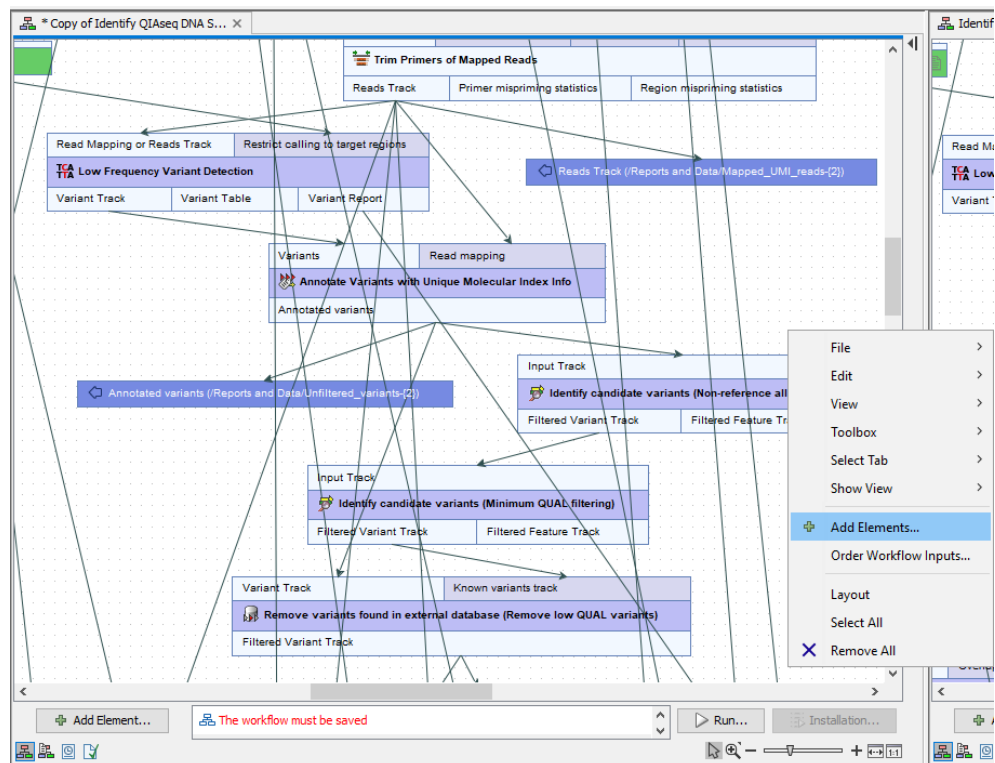

Figure 7: New elements can be added to a workflow using the Add elements dialog.
12. Right-click in a blank area of the canvas, somewhere below the **Identify candidate variants (Non-reference alleles)** element, and choose the option **Add elements...** from the menu that appears, as shown in figure 7.